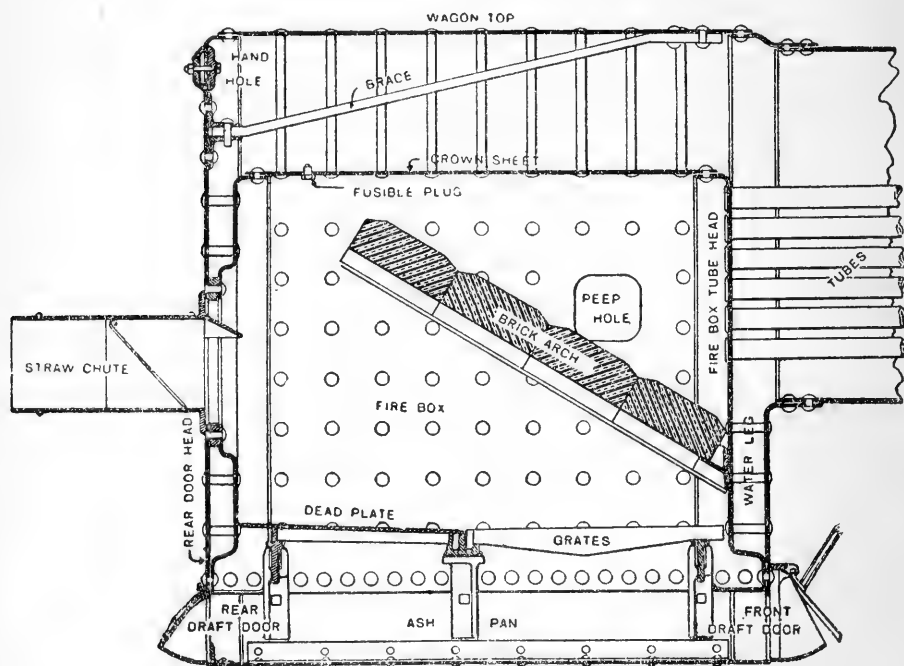

FIG. 6. SECTIONAL VIEW OF FIRE BOX FOR BURNING STRAW.
*Firing with Straw.* Modern "Case" straw burning engines are all of the direct flue type. They are the same as the coal burners, except that they are fitted with straw grates, dead-plates, a brick arch and a straw chute and the boiler is lagged. (See Fig. 6.) Any "Case" side-crank spring-mounted engine, except the Nine-Horse, can be made to burn straw by making these changes.